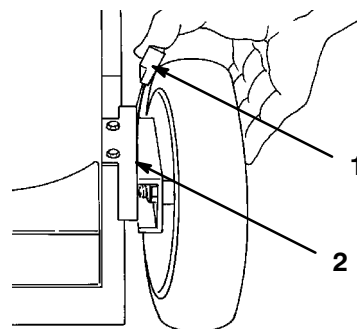

Figure 11
3. Squeeze the cutting height adjuster lever toward the wheel (Fig. 11) and move it to the desired setting.